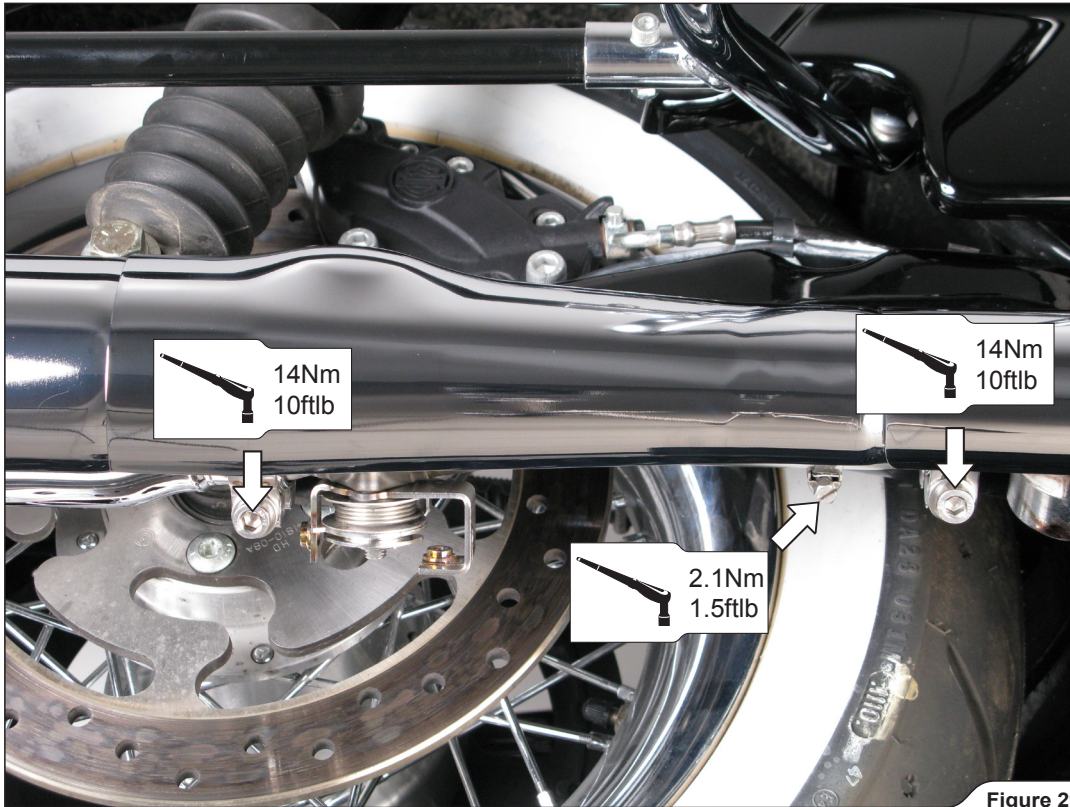

Figure 29
10. Align both Akrapovič heat shields with original heat shields, adjust all the clamps as shown and tighten them to a specified torques (Figure 29).